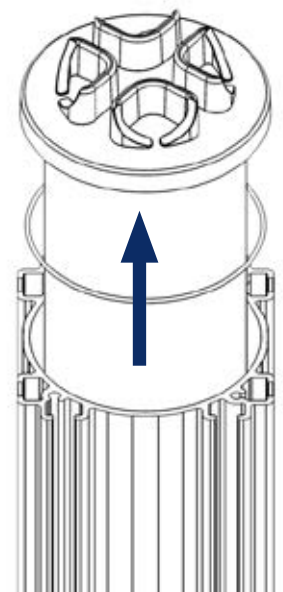

Fig. 7
- ▶ Remove the filter element from the lid (fig. 7) and dispose off in accordance with local regulation.